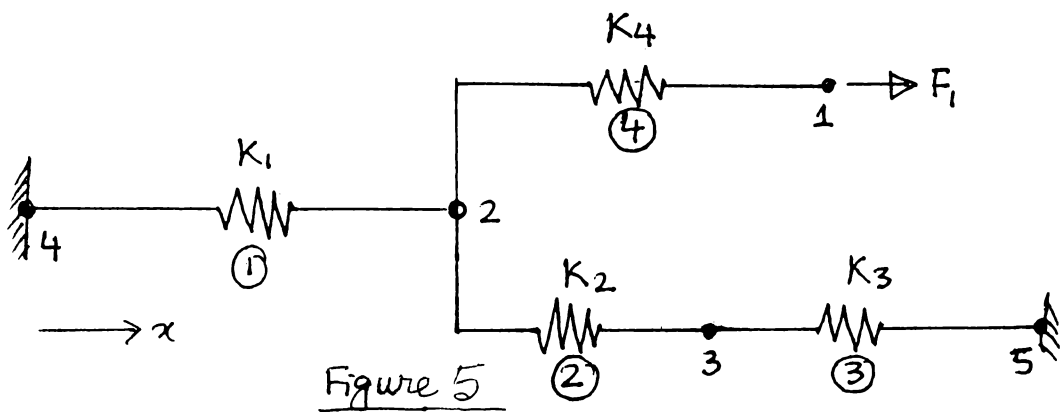

Figure 5
8. (a) The spring system shown in Figure 5 contains arbitrarily numbered nodes and elements. Find the global stiffness matrix. (12)
- (c) Discuss the various discontinuities to be considered in discretizing a structure in FEM. (6)